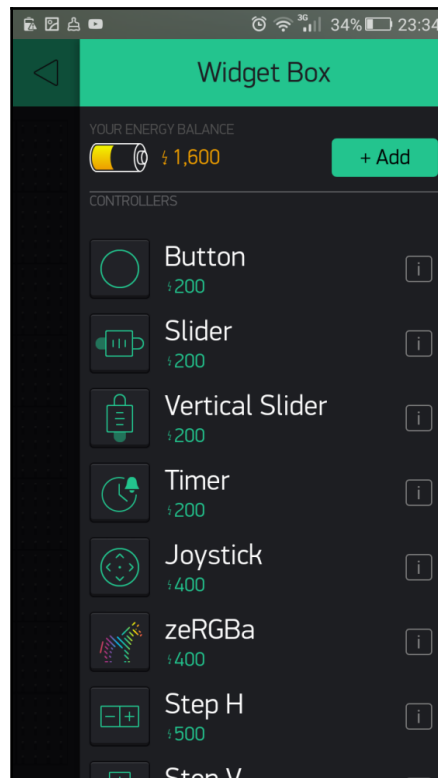

Figure 2.24: Adding the Joystick widget
6. Add a **Joystick** widget from the **Widget Box** section (Figure 2.24):